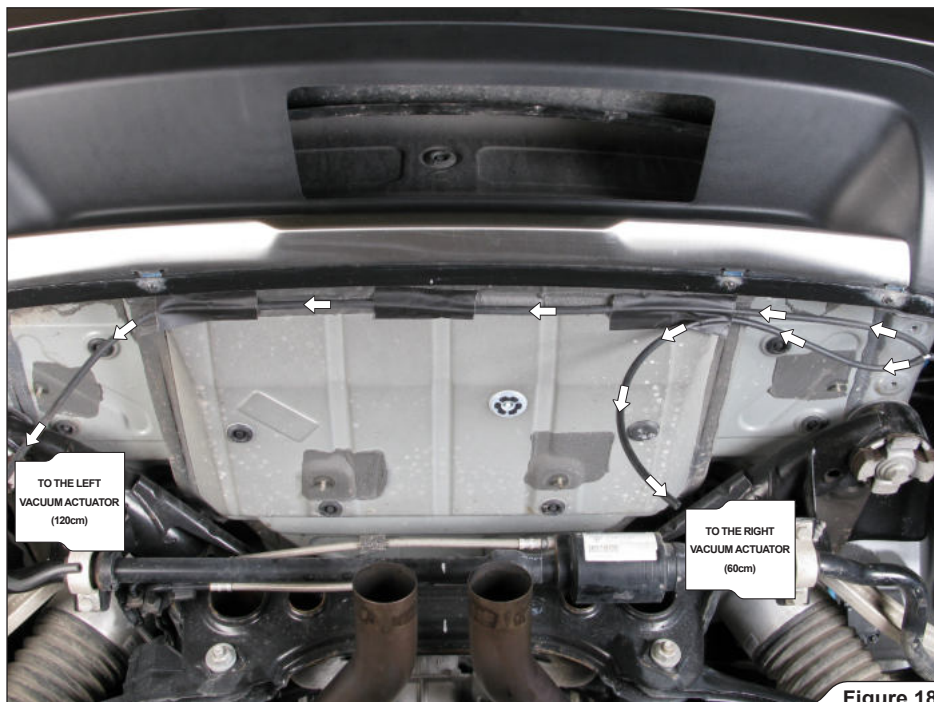

Figure 18
14. Direct the vacuum hoses as shown and tape them to the chassis (Figure 18).